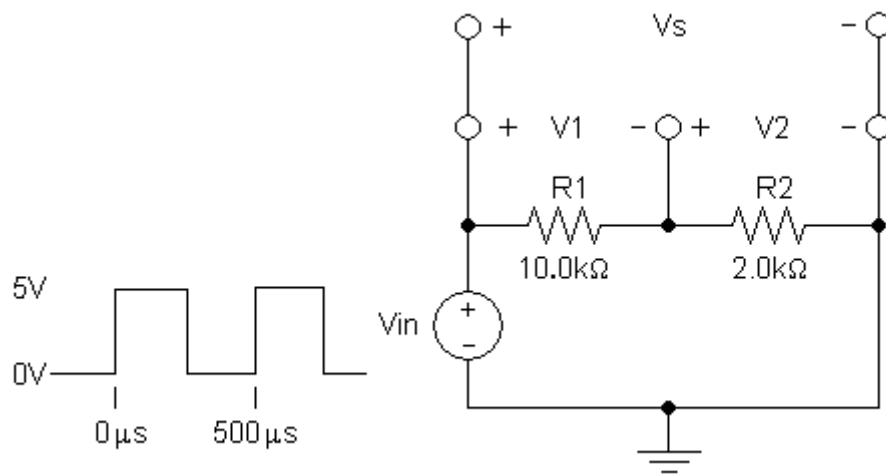

Figure 1: Test Circuit
1. Construct the circuit shown in Fig. 1. Use $R1 = 10.0\text{ k}\Omega$ and $R2 = 2.0\text{ k}\Omega$ for the passive components. Use the function generator to supply an input voltage V_{in} with a magnitude of 5.0 V_{pp} and a 2.0 kHz frequency square wave.